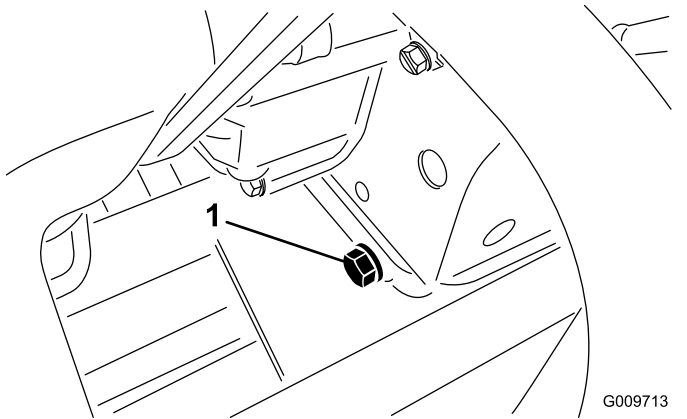

Figure 52
1. Remove the drain plug (Figure 52) and let the oil flow into a drain pan. When the oil stops, install the drain plug.